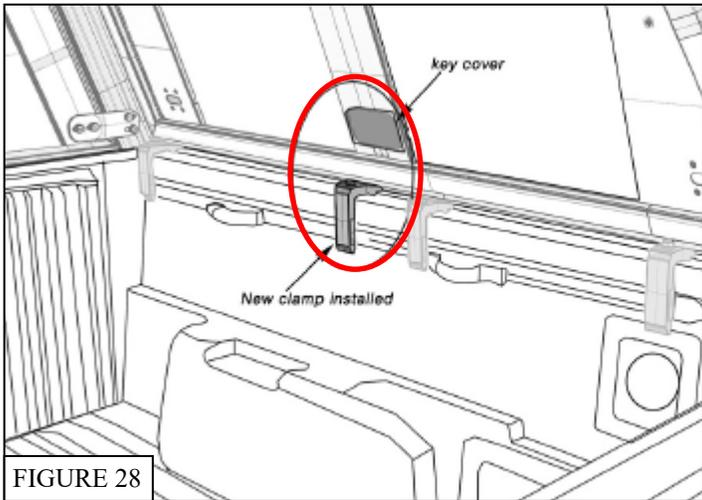

FIGURE 28
21. Place an interior brace support leg at the location below the handle cover on the side door. Use the long bolt that comes with the interior brace clamp to attach the top half of the clamp to the leg (Fig. 28 - 32).